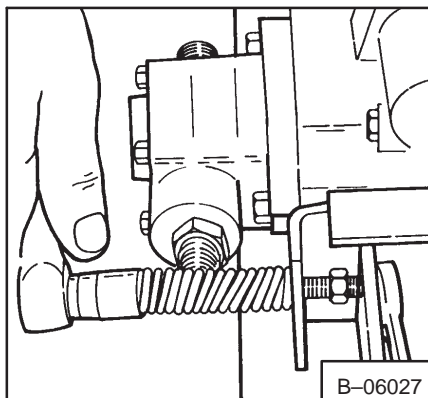

Fig. 3-19 Centering Spring Bolt
4. Remove the bolt and nut from the centering spring (Fig. 3-19).
7. Install the centering spring, bolt and nut (Fig. 3-19).